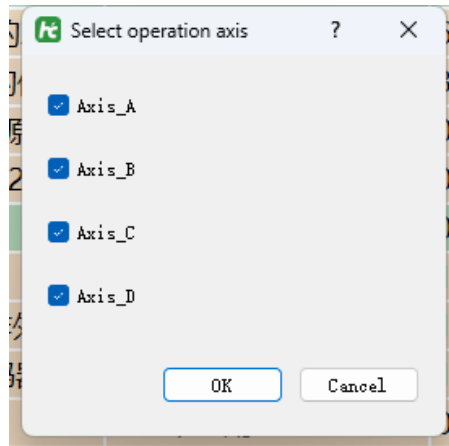

Figure2-14
- 9) Click the Compare Current Values – Factory Defaults button in the Parameter Editing interface. A dialog will then appear prompting you to select the axis for comparison. After clicking OK, the comparison page shown in Figure 2-14 will be displayed.